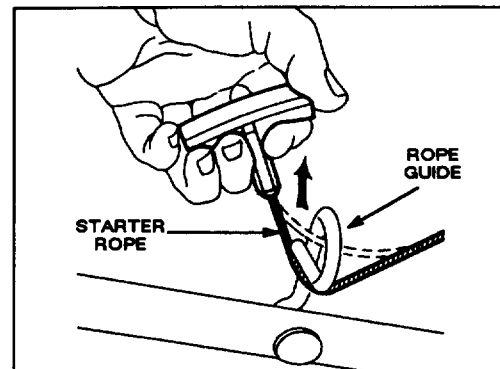

Figure 3
3. Pull starter rope through rope guide on handle (Fig. 3). By squeezing control bar on handle, blade brake will release and allow rope to be pulled up easily to loop.